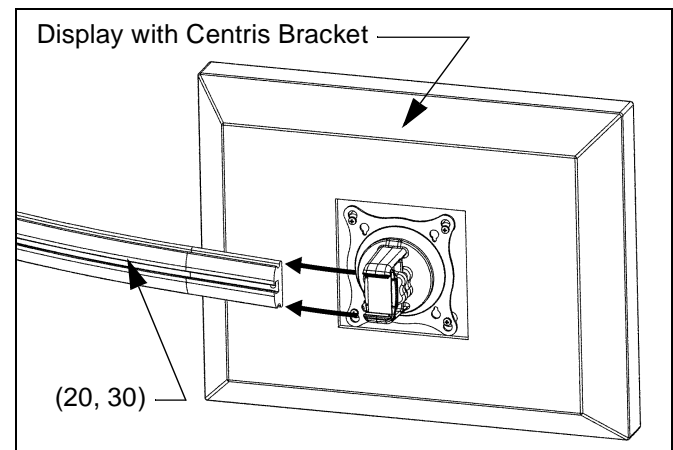

**Figure 11: Mount Centris Bracket to Display**
4. Place four 3/8" or 3/4" nylon spacers (190 or 200) over four mounting holes in display back (see Figure 11).
5. Align Centris head mounting holes with four nylon spacers (see Figure 11).
6. Secure Centris head to display using four M4 x 20mm Phillips pan head screws (170), or four M4 x 30mm Phillips pan head screws (180) (see Figure 11).